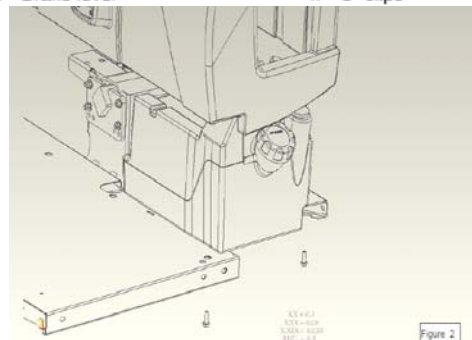

Figure 2
Step 6. Remove the seats from the seat base. Remove the 8 flange screws securing the seat base to the floor plate and front frame. Remove the seat base. (Figure 2.) Note: If the vehicle is equipped with a Roll Over Protection System it will need to be removed as this cab is ROPS certified. For Workman MDE only: Removal of seat base to gain access to fuel tank is not needed. But needs to be loose for seat belt mounting.